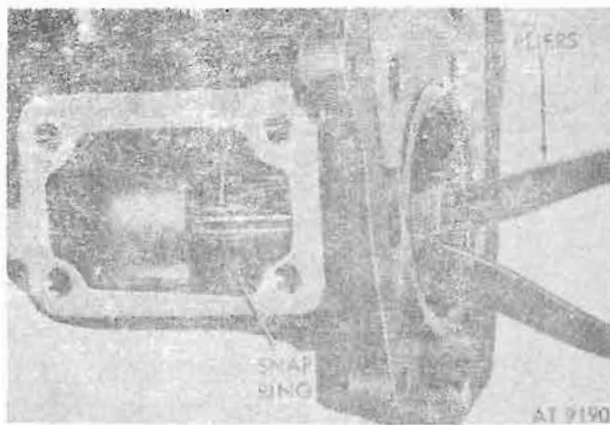

Figure 8-57. Output shaft bearing rear retaining ring.
g. Using snapping pliers, remove rear bearing-retaining snapping from transmission housing bore (fig. 8-57).